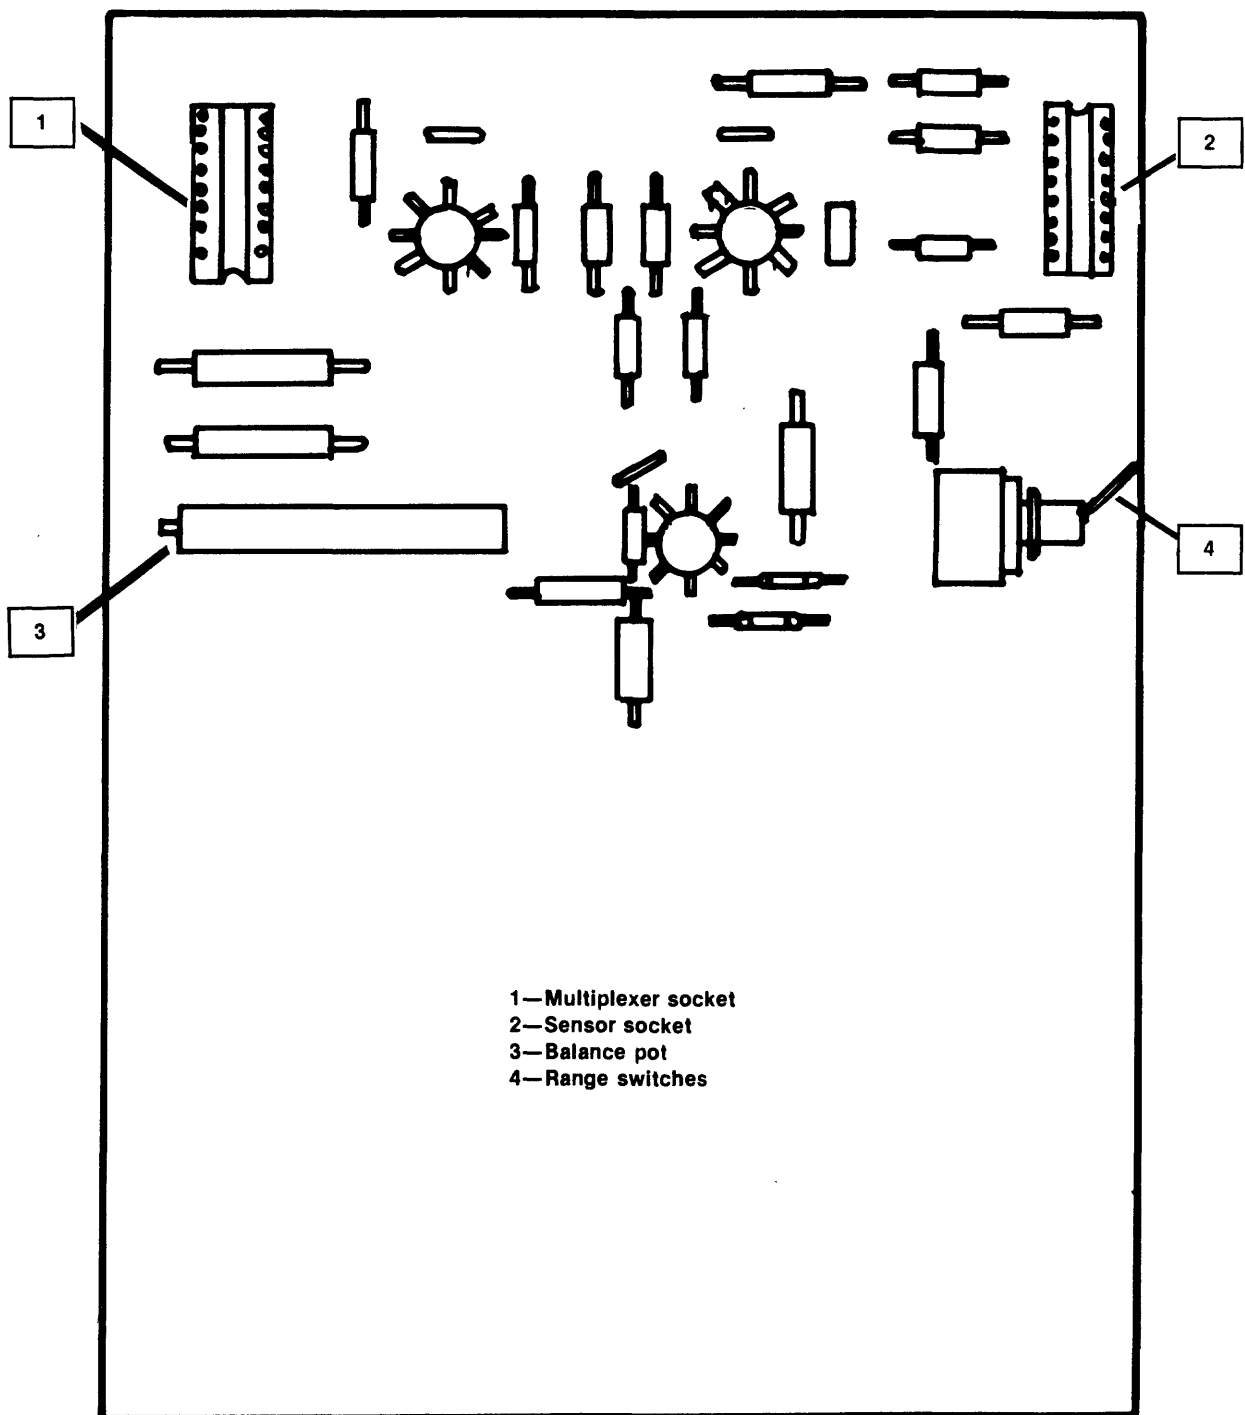

Figure 18.--pH signal conditioner.
The system provides for two measuring ranges, 0 to 10 or 2 to 12 pH, selected by a toggle switch located on the pH SIGNAL CONDITIONER board (fig. 18, pH SIGNAL CONDITIONER). The LO position is 0 to 10 pH and the HI position is 2 to 12 pH. The shunt bar on the PROGRAMMER that controls the number of channels recorded must be moved to accommodate the pH system when it is added to a multichannel system. Refer to section entitled "Servicing Internal Components of the Minimonitor" for instructions on setting the number of channels.
5. Use a small screwdriver to adjust the balance pot (fig. 18) until the DISPLAY reads X700 if the range selected is LO (0 to 10) or X500 if the range selected is HI (2 to 12).